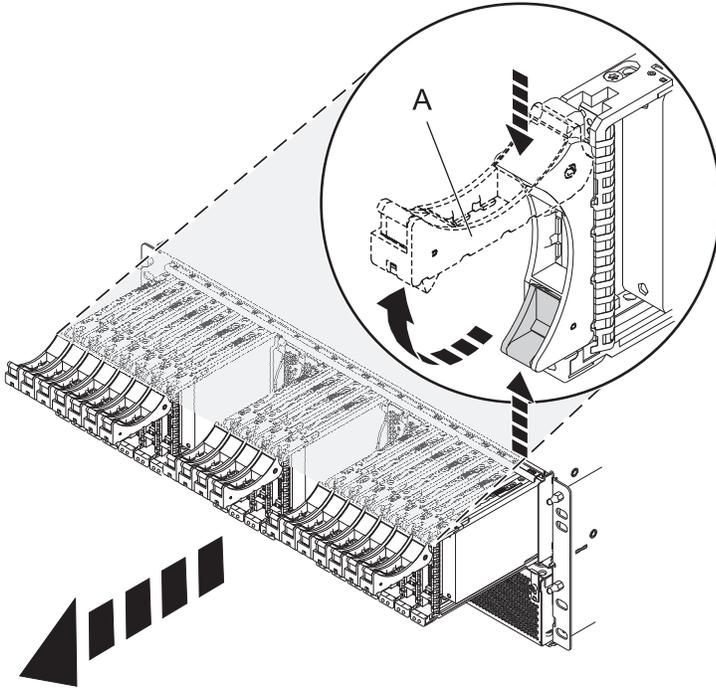

Figure 77. Removing the disk drives from the backplane
3. Remove the disk drives and fillers as shown in Figure 77 on page 130.
- a. Squeeze the latch of the disk drive and pull the handle (A) toward you to release the disk drive.